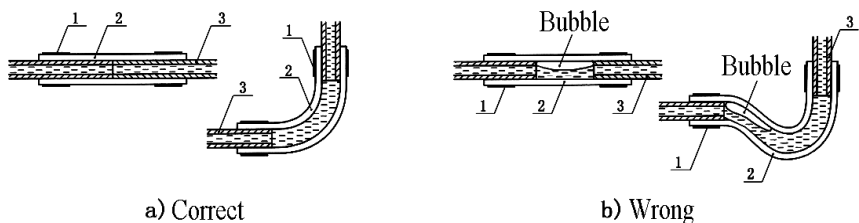

Fig. 17
4.4.5.4 The fuel pipe fittings supplied with the heater shall be used for connections between fuel pipe and fuel pump, fuel pipe and heater, fuel pipe and sucking pipe of fuel tank and fuel pipe and reducing T. The fuel pipe shall ties with fuel pipe clamps. Bubbles shall be eliminated from the connecting places (Fig. 17).